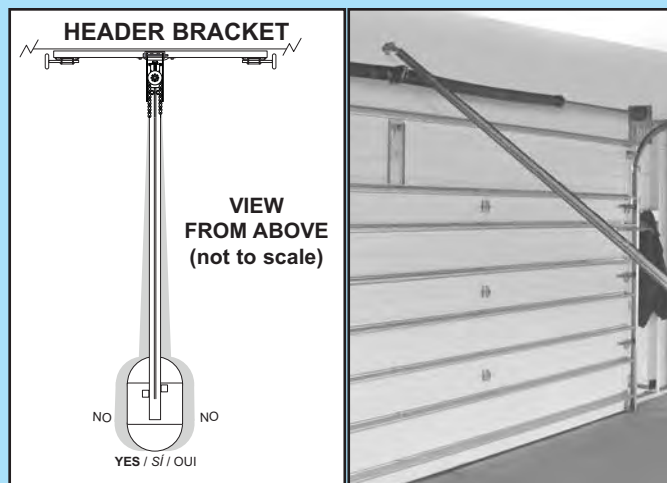

FIG. 2-4 Position assembly and align.
- Position assembled rail on wall next to header bracket. (Fig. 2-4).
NOTE: Before final attachment to ceiling, insure that assembly is in proper alignment (Fig. 2-4).